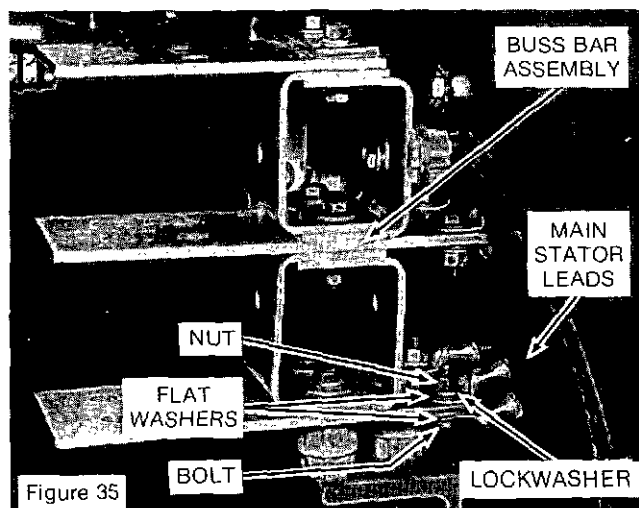

Figure 35
- On generators with buss bars, connect the main stator leads to the appropriate buss bar according to the lead markings. Insert a flat washer on the bolt, then assemble one terminal to the buss bar with the bolt and flat washer. (See Figure 35.) Insert a second lead on the bolt on the other side of the buss bar, then a flat washer, lockwasher, and locknut.